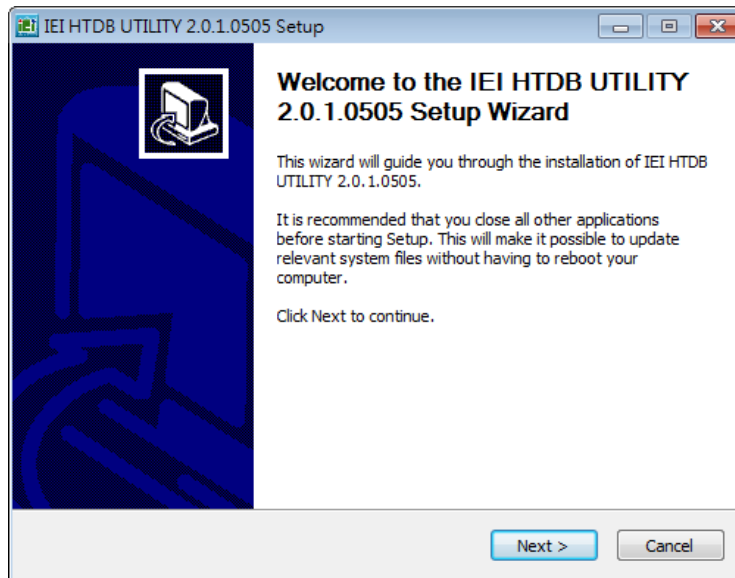

Figure 3-2: Setup Wizard Welcome Window
Step 6: The Setup Wizard welcome window appears (**Figure 3-2**). Click **Next** to continue.